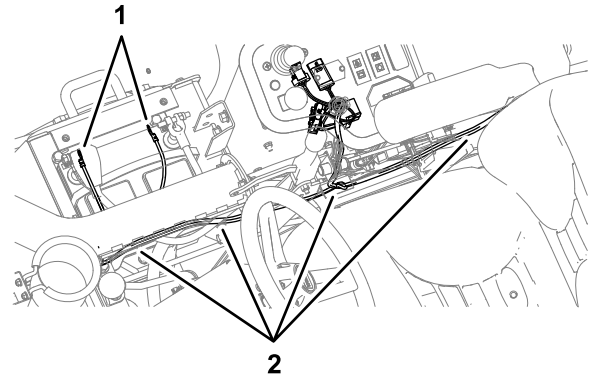

Figure 11
3. Route the wire harness along the bottom of the control console and rearward to the roll bar (Figure 11).